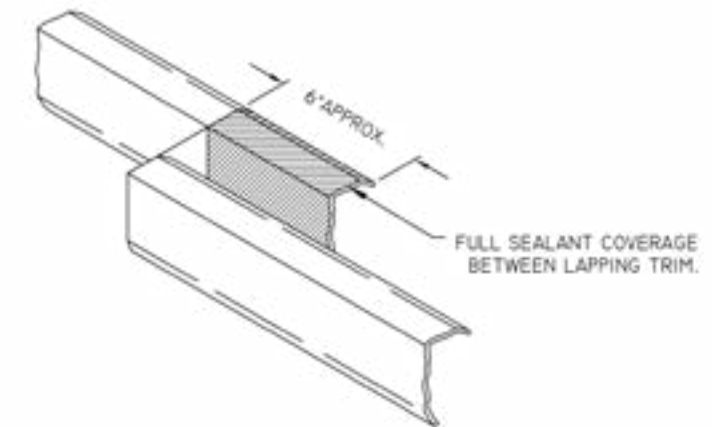

FIGURE 10
- 9) Where splices are necessary, overlap trim by 6" and coat the overlap with butyl sealant. Install TEK® screws at center overlap and 1" beyond. (FIGURE 10)